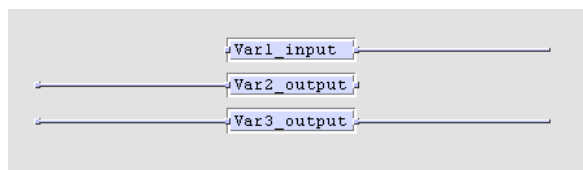

Figure 57: Direction of global variables
- The direction of the variable is determined based on the graphical representation, shown in Figure 57.